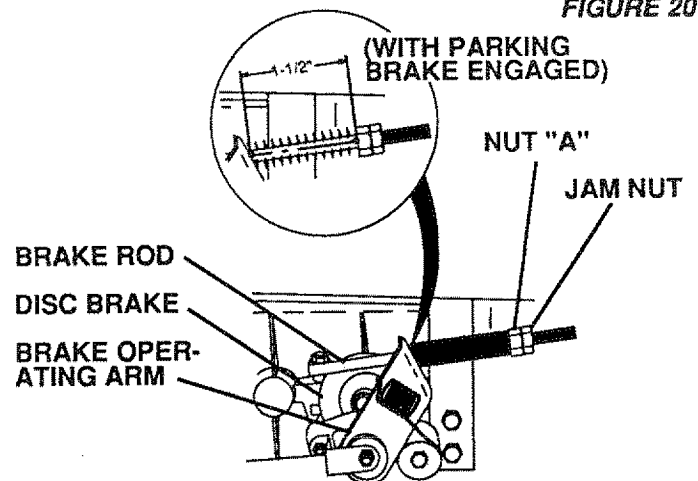

FIGURE 21
This tractor is equipped with an adjustable disc brake, mounted on the right side of the transaxle (fig. 21).
- c. If distance is other than 1-1/2" (3.81 cm), loosen jam nut (Fig. 21) and turn nut "A" until distance becomes 1-1/2" (3.81 cm). Retighten jam nut against nut "A".